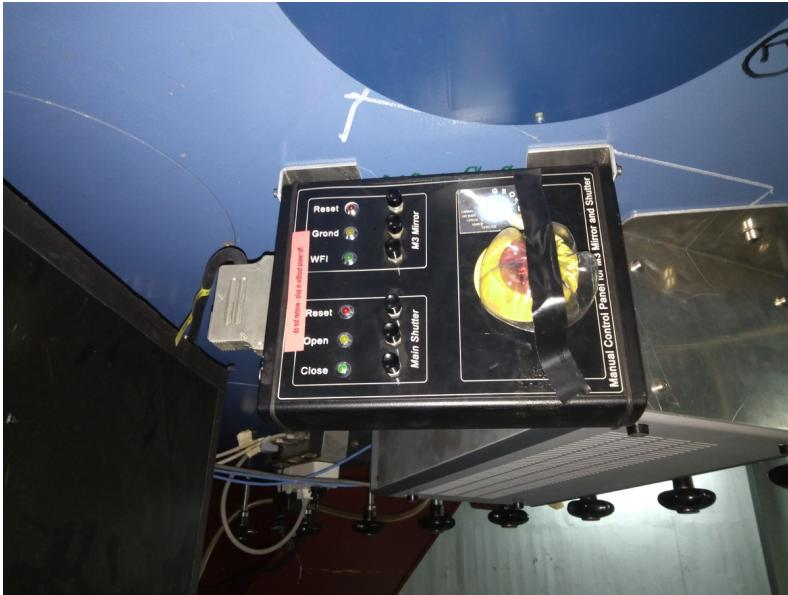

Figure 10.11: The GROND M3 mirror and main cover control box.
- B. On the box (Fig. 10.11, p. 87), press the grondM3 WFI button.